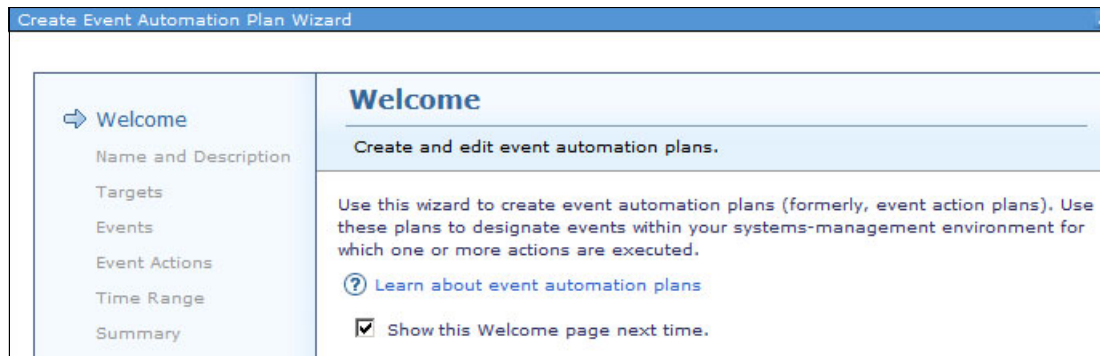

Figure 7-17 Create Event Automation Plan Wizard Welcome window
3. The Welcome window of the Event Automation Plan wizard is displayed (Figure 7-17). In the Welcome window, specify whether you want to show the Welcome window the next time you use the wizard and click **Next**.